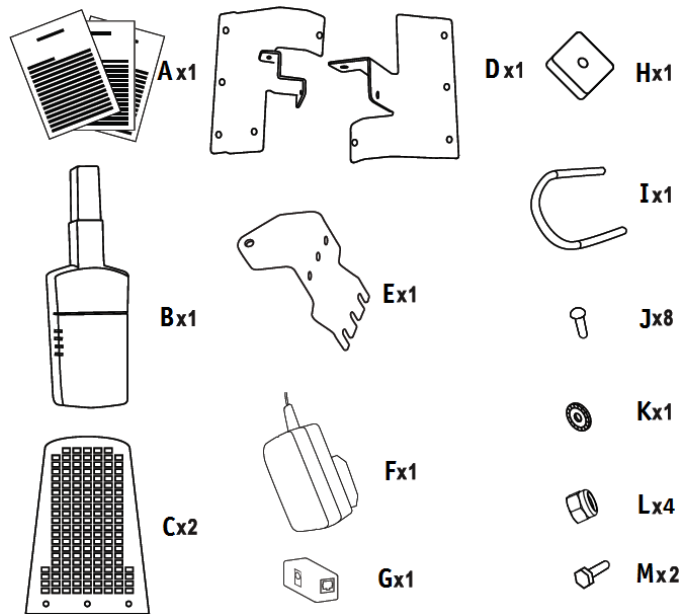
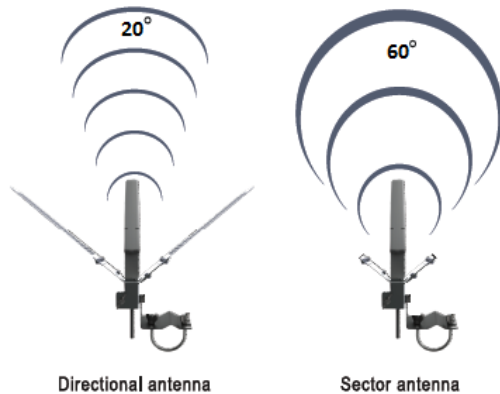

Figure 1 – APC 2S-14 Package Contents
Figure 4 – Differences between Directional and Sector Antenna Performance
The APC 2S-14 radio module contains internal antenna. The internal antenna can be used with the supplied unique coupling parts (perforated antenna wings, refer to *Figure 1 – APC 2S-14 Package Contents*
An APC 2S-14 comes with **Directional antenna** assembled with perforated antenna wings (refer to the *Figure 1 – APC 2S-14 Package Contents* for details) thus redirecting the more energy in one direction and less energy in all other directions. As the gain of a directional antenna increases, the angle of radiation becomes approx  $20^\circ$ , thus providing a greater coverage distance, but with a reduced coverage angle.
The APC 2S-14 with removed perforated antenna wings (refer to the *Figure 1 – APC 2S-14 Package Contents* for details) acts as **Sector antenna**, thus providing a greater beamwidth (approx  $60^\circ$ ), but with reduced coverage distance.
**Step 2.** Dependably on required APC 2S-14 antenna usage (refer to *Figure 4 – Differences between Directional and Sector Antenna Performance*), attach and screw perforated antenna wings with screws (item J in the *Figure 1 – APC 2S-14 Package Contents*):
**Step 3.** Attach corner reflectors with enclosure and tighten with one hexagon bolt and nut (items M and L in the *Figure 1 – APC 2S-14 Package Contents*):
**Step 4.** Fix corner reflectors with two screws (item J in the *Figure 1 – APC 2S-14 Package Contents*):
- Step 5.** Attach mounting bracket (items M, K, E and L in the *Figure 1 – APC 2S-14 Package Contents*) to the unit and tighten the nut and bolt. For mounting APC 2S-14 on the wall, first attach mounting bracket to the wall and then connect the unit together and tighten the nut and bolt.
- Step 6.** For the pole mounting attach APC 2S-14 on pole with U bolt (items I and L in the *Figure 1 – APC 2S-14 Package Contents*):